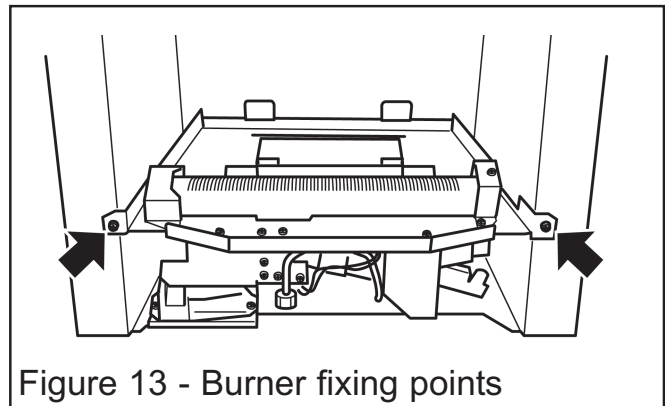

Figure 13 - Burner fixing points
1. Detach the burner unit from the convection box by removing two screws (See figure 13). Lift the burner unit clear.